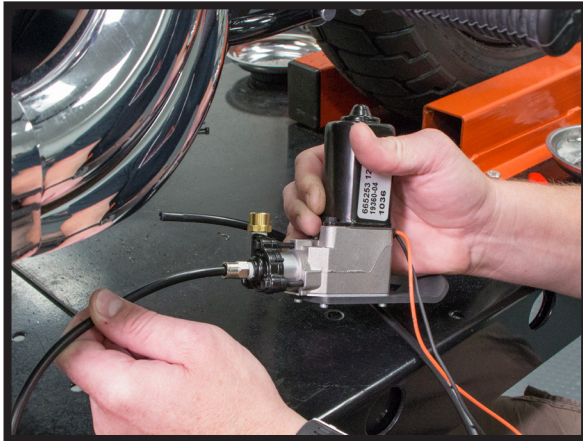

FIGURE 7
4. INSERT THE 1/4" AIR LINE INTO THE PUMP ASSEMBLY. THEN, WHILE PULLING THE HOSE AND THE PUMP WIRES BETWEEN THE FRAME AND THE MOTOR, GUIDE THE PUMP ASSEMBLY UP BETWEEN THE MOTOR AND THE FRAME RAIL AS DEPICTED BELOW. (FIGURES 7, 8)